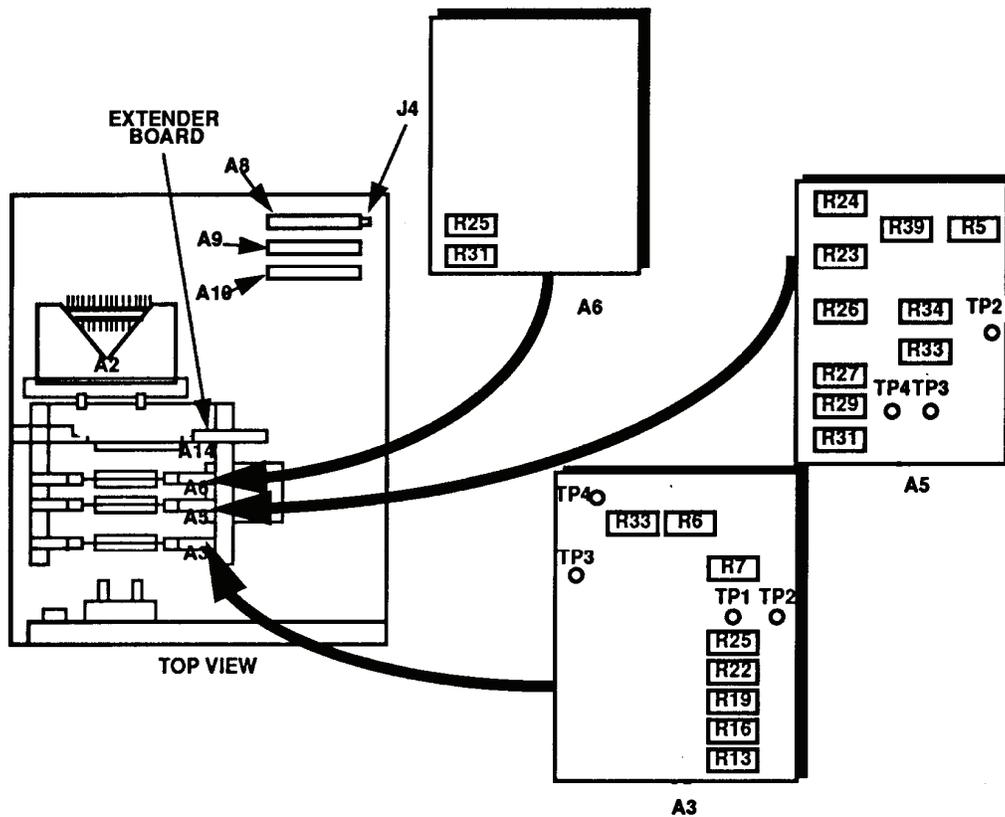

Figure 1. Test instrument – adjustment and test point locations.
(1) Set **POWER** switch to **OFF**.
(2) Remove cover from TI.
(3) Remove assembly A3 and reconnect using extender board (fig. 1).
- (4) Position controls as listed in (a) through (e) below:
- (5) Set measuring receiver to frequency counter mode.
- (6) Connect **TI RF OUTPUT** to measuring receiver power sensor and adjust **TUNING COARSE** and **FINE** control for an indication of 80.00000 MHz on measuring receiver.
- (7) Disconnect cable from **J4** on assembly **A8** (fig. 1) and adjust **A3R7** (fig. 1) for an indication of 0.00 on **FREQUENCY** display (R).
- (8) Reconnect cable to **J4** (fig. 1).
- (9) Connect audio analyzer **INPUT HIGH** to **A3TP2** and **A3TP1** (common) (fig. 1). Do not connect to chassis ground.
- (10) Set audio analyzer to measure **V dc** and adjust **A3R6** (fig. 1) for a -1.004 V dc indication on audio analyzer (R).
- (11) Move positive lead to A3TP4 (fig. 1).
- (12) Adjust A3R33 (fig. 1) for a 1.000 V dc indication on audio analyzer.
- (13) Repeat (6) above and adjust A3R25 (fig. 1) for 80.00 MHz on **FREQUENCY** display (R).
- (14) Set **TUNING RANGE** switch to **4-20 MHz**.
- (15) Adjust **COARSE** and **FINE TUNING** control for an indication of 20.00000 MHz on measuring receiver.
- (16) Adjust A3R22 (fig. 1) for 20.00 MHz on **FREQUENCY** display (R).
- (17) Set **TUNING RANGE** switch to **1-5 MHz**.
- (18) Adjust **COARSE** and **FINE TUNING** controls for an indication of 5.00000 MHz on measuring receiver.
- (19) Adjust A3R19 (fig. 1) for 5.000 MHz on **FREQUENCY** display (R).
- (20) Set **TUNING RANGE** switch to **.25-1.25MHz**.
- (21) Adjust **COARSE** and **FINE TUNING** controls for an indication of 1.25000 MHz on measuring receiver.
- (22) Adjust A3R16 (fig. 1) for 1.250 MHz on **FREQUENCY** display (R).
- (23) Set **TUNING RANGE** switch to **50-250 kHz**.
- (24) Adjust **COARSE** and **FINE TUNING** controls for an indication of 0.25000 MHz on measuring receiver.
- (25) Adjust A3R13 (fig. 1) for 250.0 kHz on **FREQUENCY** display (R).
- (26) Set **POWER** switch to **OFF** and reinstall assembly A3 and extender board (fig. 1) in proper locations.
- (27) Set **POWER** switch to **ON**.
- (1) Set **POWER** switch to **OFF**.
- (2) Remove assembly A6 and reconnect using extender board (fig. 1).
- (3) Set **POWER** switch to **ON**.